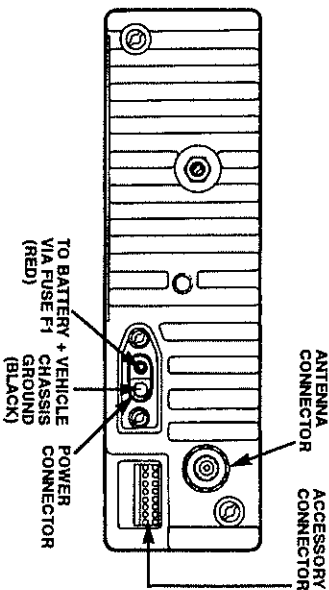

Figure 3. Connections to Radio Rear Panel
7. Connect the power cable black lead directly to the VEHICLE CHASSIS GROUND. (See Figure 3).
8. Connect the power cable red lead from the fuse holder to the positive (+) battery terminal. Make sure the adapter cable is connected to the main power cable red lead. (See Figure 3).
5. To complete your radio installation plug the power cable into the radio POWER CONNECTOR (see Figure 3).
7. Connect the antenna cable connector to the radio ANTENNA CONNECTOR on the rear of the radio. (See Figure 3).